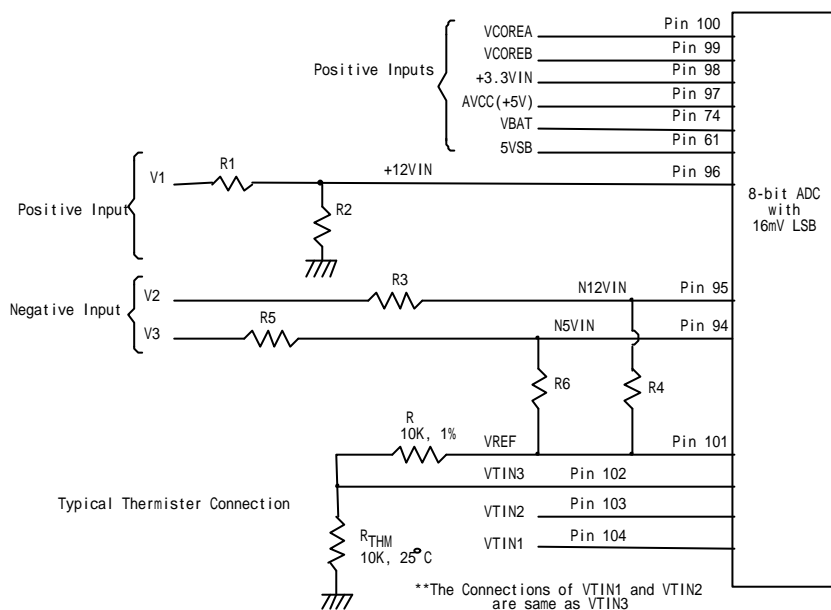

Figure. 9.2
The maximum input voltage of the analog pin is 4.096V because the 8-bit ADC has a 16mv LSB. Really, the application of the PC monitoring would most often be connected to power suppliers. The CPU V-core voltage ,+3.3V ,battery and 5VSB voltage can directly connected to these analog inputs. The +12V,-12V and -5V voltage inputs should be reduced a factor with external resistors so as to obtain the input range. As Figure 9.2 shows.
The negative voltage should be connected two series resistors and a positive voltage VREF (is equal to 3.6V). In the Figure 9.2, the voltage V2 and V3 are two negative voltage which they are -12V and -5V respectively. The voltage V2 is connected to two serial resistors then is connected to another terminal VREF which is positive voltage. So as that the voltage node N12VIN can be obtain a posedge voltage if the scales of the two serial resirtors are carefully selected. It is recommanded from Winbond that the scale of two serial resistors are R3=232K ohms and R4=56K ohm. The input voltage of node N12VIN can be calculated by following equation.
The W83697HF can connect three thermistors to measure three different environment temperature. The specification of thermistor should be considered to (1) β value is 3435K, (2) resistor value is 10K ohms at 25°C. In the Figure 9.2, the thermistor is connected by a serial resistor with 10K Ohms, then connect to VREF (Pin 101).